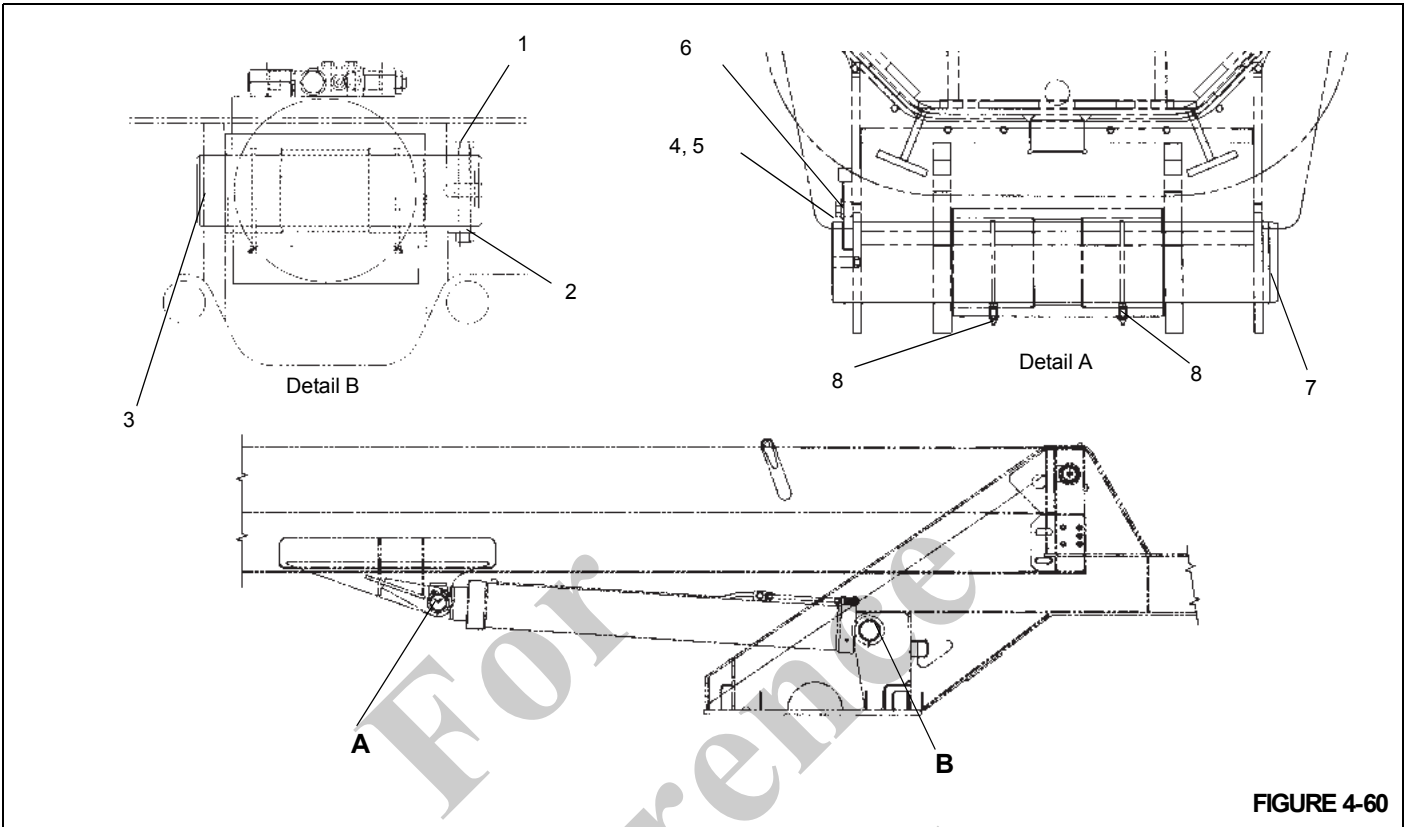

FIGURE 4-60
**NOTE:** Refer to Figure 4-60 for removal and installation of lift cylinder.